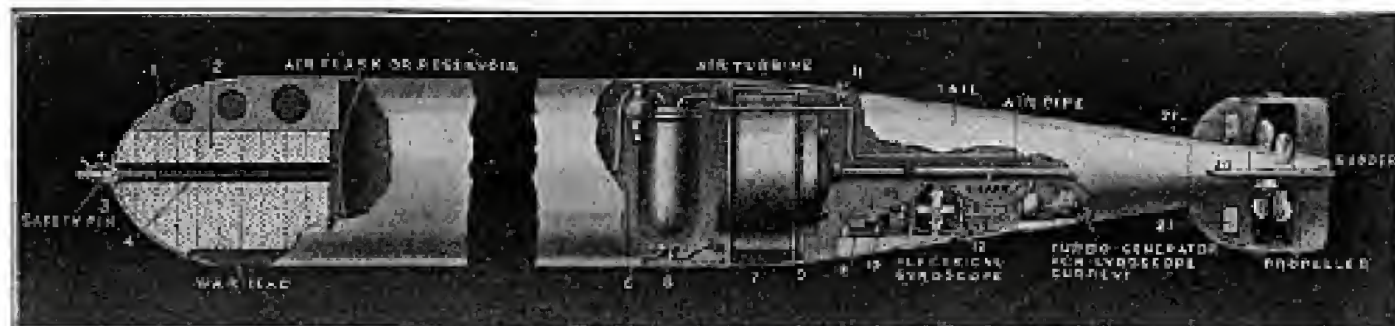

Fig. 1. Semi-Sectional View of Latest Type Automobile Torpedo.
This self-propelling device is shown as Fig. 1 with its clever devices for steering and diving. It measures 24 feet long and 21 inches in diameter, with a weight of one ton. This modern fighting
The "war-head" (1), Fig. 1, differs from the "practice-head" and is used only in actual fighting. It is loaded with a charge of gunpowder (2) containing 24 per cent. moisture. At 4 is the deminating charge, which is fired by the plunger or striking rod 3. A safety pin is provided at the end of the plunger, as depicted, this being used for safety when loading the torpedo in the firing tube.
The central flask or air reservoir 8 (Fig. 1) is connected to the turbine through the supercharger 7. This turbine is connected to a reducer gear 9 and then to the propeller shaft 10 which operates the two propellers 11, 12. These are rotated in opposite directions. The power developed by the turbine is 110 horsepower and the shaft runs at 1,200 R.P.M., enabling the missile to travel at the rate of 35 to 40 knots, with an extreme range of 10,000 yards.